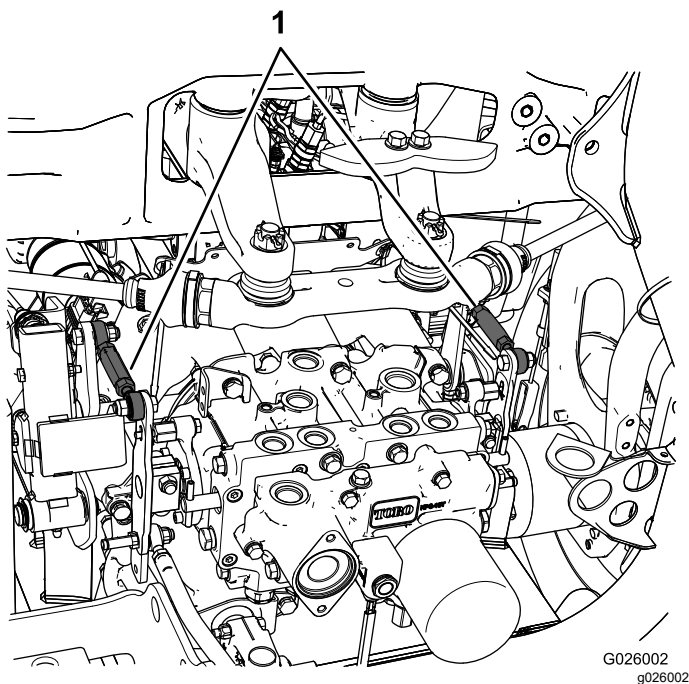

Figure 86
- If the left rear tire is rotating, loosen the jam nuts on the left side transmission control rod (Figure 86).